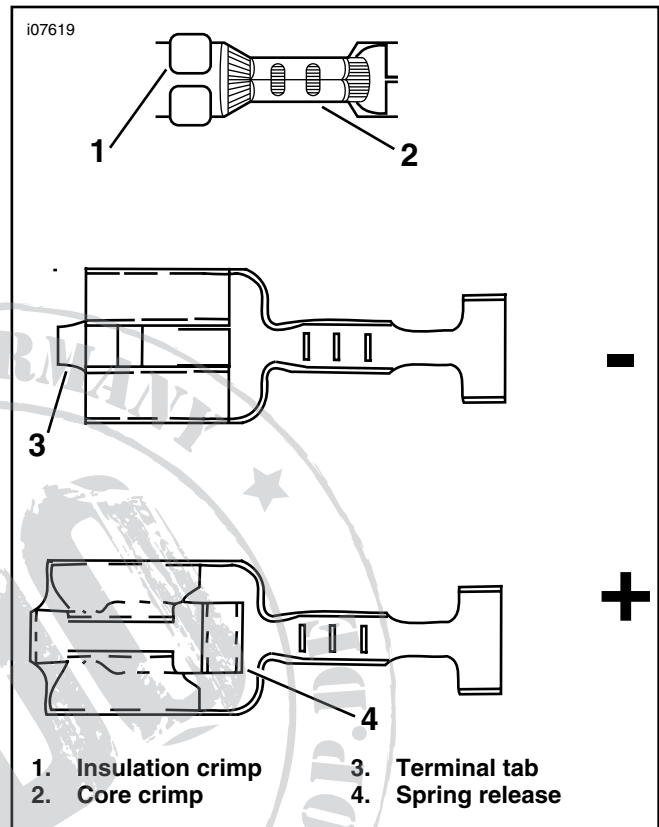

Figure 1. Kit Terminals
7. See Figure 1. Compare the two spade terminals in kit. The smaller terminal will be installed on the negative lead. The larger terminal, which has a spring release, will be installed on the positive lead. Before installing terminals, take the smaller terminal (for the negative lead) and grasp the small tab (3) at the end of the terminal with pliers. While holding the terminal tab, move the terminal back and forth to break off the tab. This will allow the terminal to slide completely onto the negative post of the new bulb (the post located between the two adjacent screws on the back of the bulb).
8. See Service Parts illustration. Slide terminal housing (3) over positive lead. Strip 1/4 in. of insulation off the end of each wire.
9. Using the correct die on crimp tool, crimp the spade terminal core (2) and then the insulation (1) to make a proper terminal attachment as shown in Figure 1. Do this for the positive and negative terminals. Snap terminal housing in place over positive lead spade terminal.